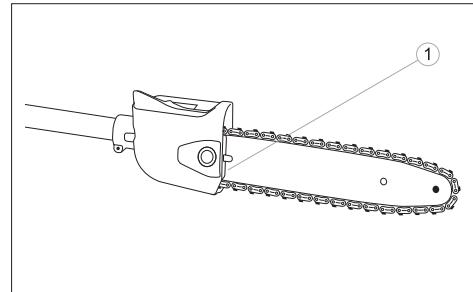

fig. 19
Loosen the nuts securing the tire (protective cover together with the brake flap), turn the adjusting screw (1) clockwise to tighten the chain. To decrease the chain tension, turn the adjusting screw (1) counterclockwise. Make sure that the chain is located on the entire periphery of the tire. (fig. 19).